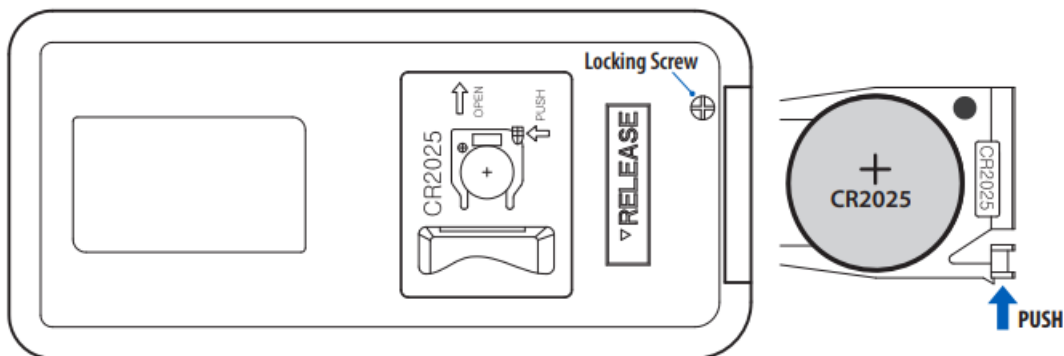

Figure 4
- To replace the battery, remove the locking screw on the back of the remote control using a small Phillips screwdriver, then push the tab on the left of the battery tray towards the right and pull out the battery tray from the remote control (see Figure 4). Place a new “CR2025” battery on the tray with the positive (+) side facing up. Insert the tray back into the remote control and secure with the locking screw.